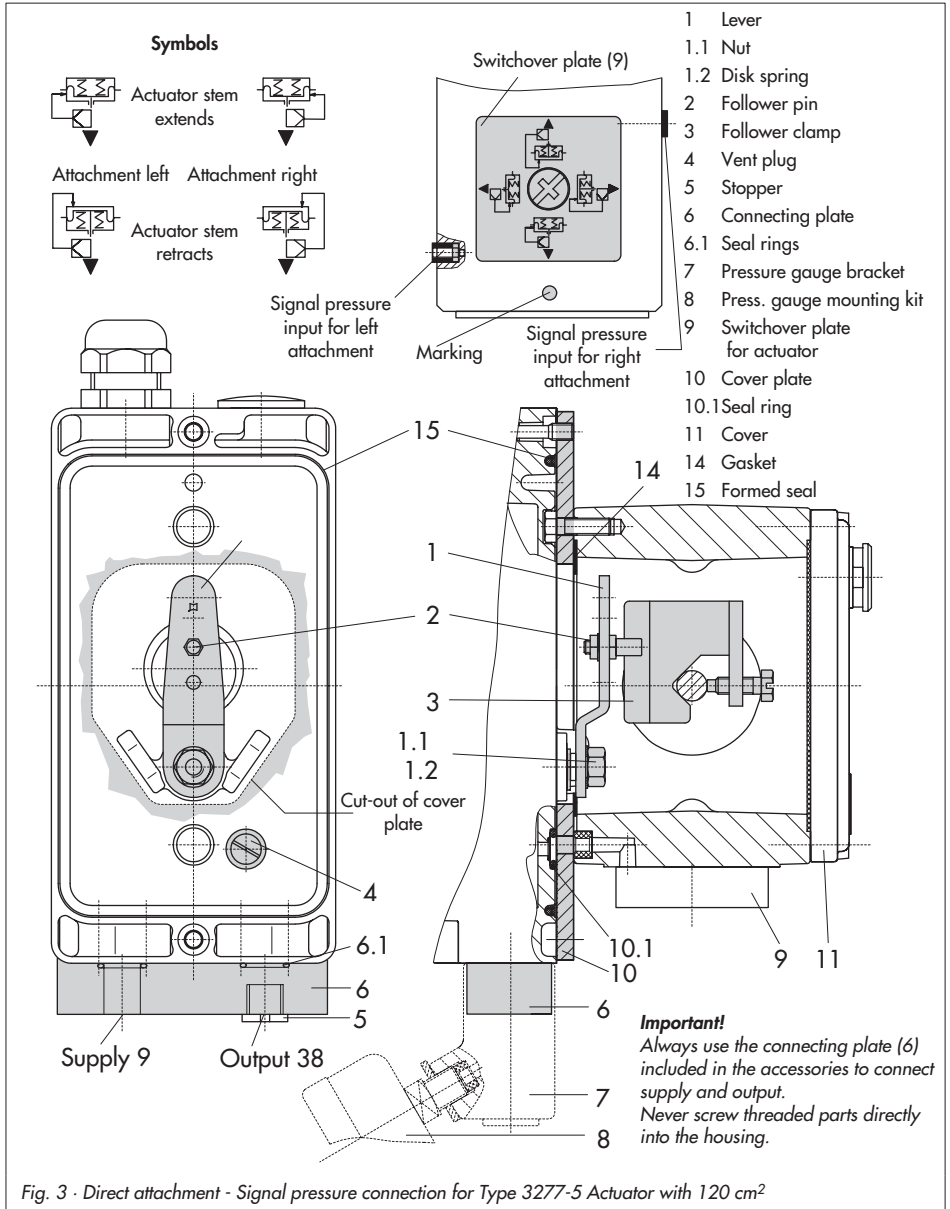

Fig. 3 · Direct attachment - Signal pressure connection for Type 3277-5 Actuator with 120 cm²
Table 1 Direct attachment to Type 3277-5 Actuator, see Fig. 3
1. Mount connecting plate (6) or pressure gauge bracket (7) with pressure gauges onto the positioner, making sure both seal rings (6.1) are seated properly.
2. Remove vent plug (4) on the back of the positioner and close the signal pressure output "Output 38" on the connecting plate (6) or on the pressure gauge bracket (7) with the stopper (5) included in the accessories.
3. Place follower clamp (3) on the actuator stem, align and screw tight so that the mounting screw is located in the groove of the actuator stem.
4. Mount cover plate (10) with narrow side of the cut-out opening (Fig. 3, on the